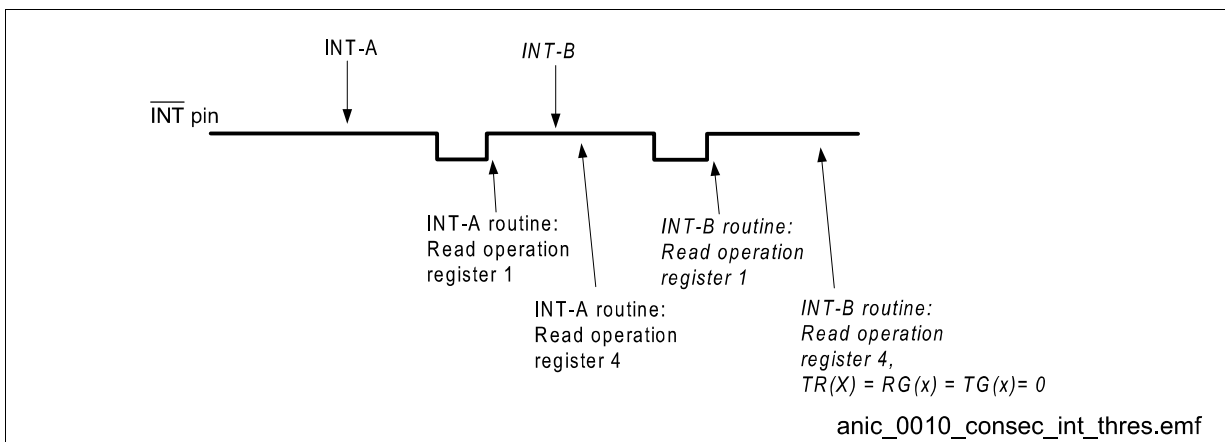

Figure 17 Example for Consecutive Threshold Interrupts
When there are two consecutive threshold interrupts (e.g. "INT-A" followed by "INT-B", see Figure 17) and INT-B happens before the interrupt service routine of INT-A could read register 4, the source of INT-B will be read together with the source of INT-A in register 4 (Bits TR(x), RG(x) and TG(x)). As reading register 4 clears the bits TONE(0) and TONE(1), the later starting interrupt service routine of INT-B can't find a source for this interrupt in register 4 (Bits TR(x) = RG(x) = TG(x) = 0). Therefore, the host must ignore the interrupt service routine of INT-B and use the values of the former routine.